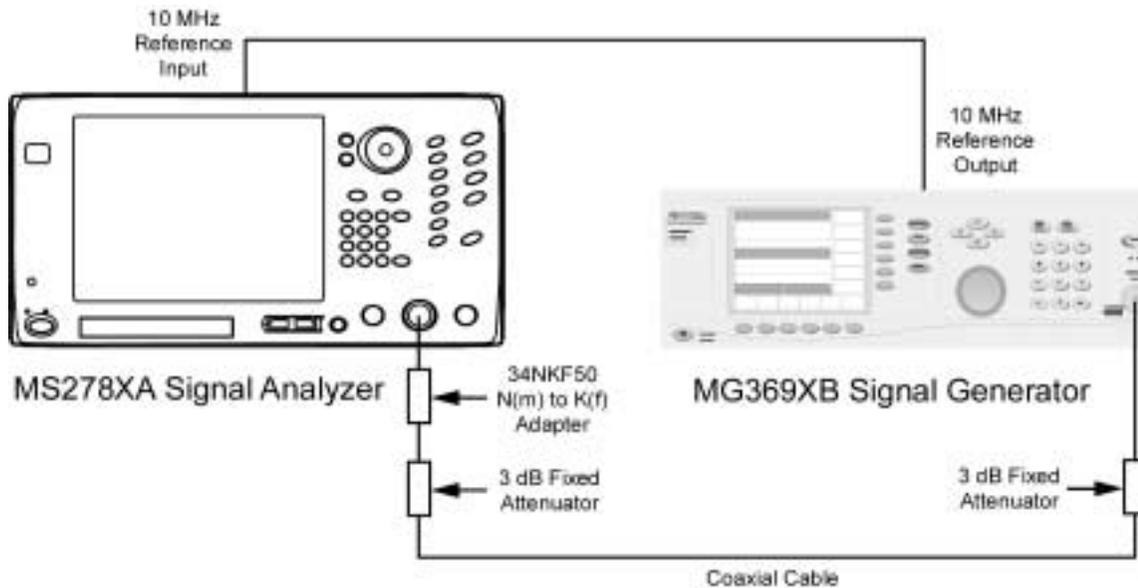

Figure 3-2. Equipment Setup for Frequency Readout Accuracy Test
- Step 1.** Set up the instruments as shown in Figure 3-2.